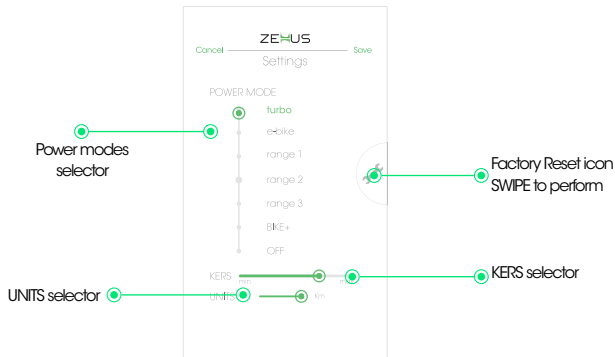

Figure 10: dashboard menu
4.4 Dashboard menu (Figure 10)